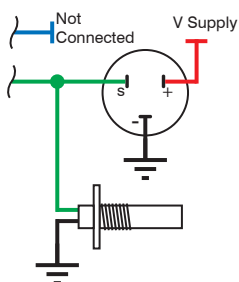

Figure 12
- Refer to the connection in **“Figure 9 - Tacho Input Connections”** and **“Figure 12”**.